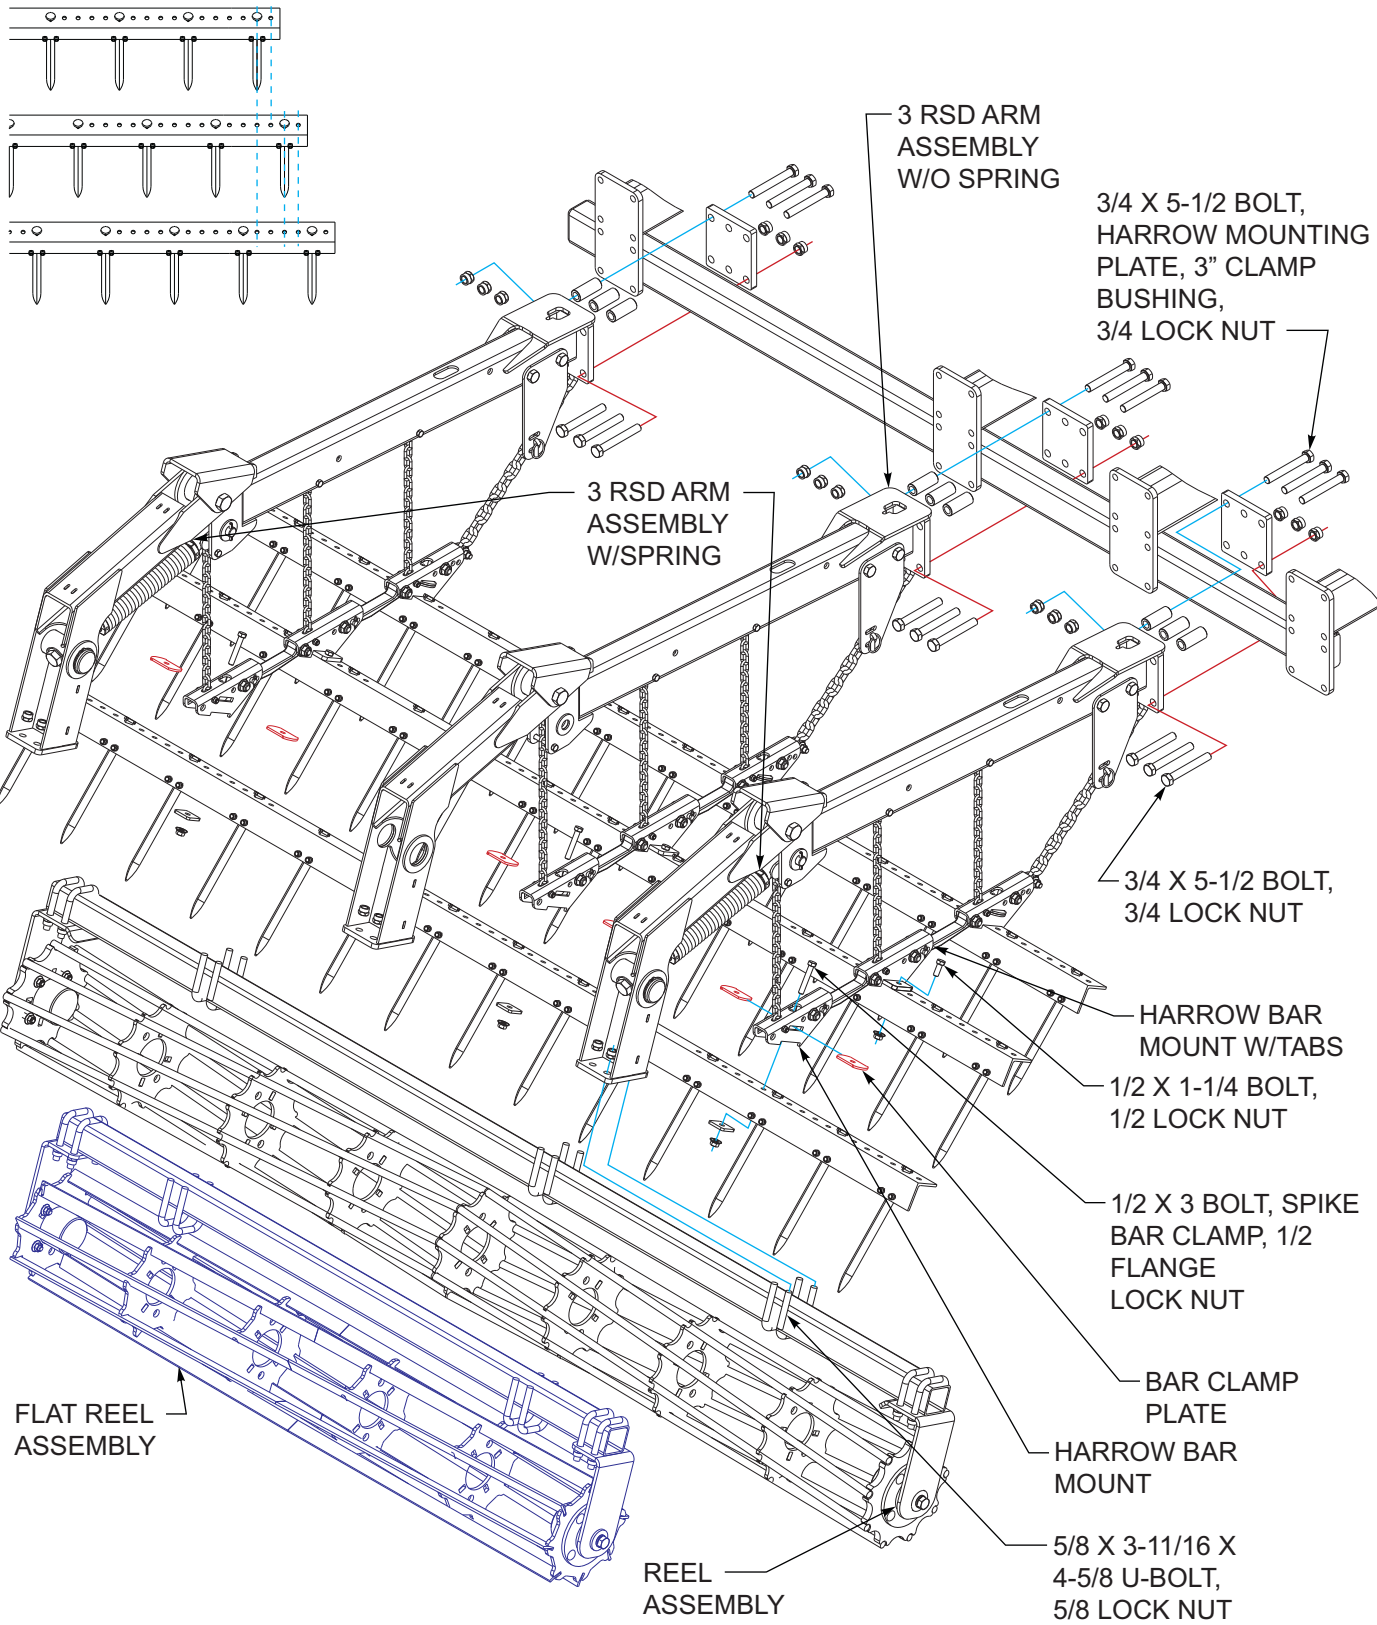

Figure 3-36: 3 Row Spike Harrow and Reel Installation
1. Attach the 3 RSD w/spring and 3 RSD w/o spring arm assemblies to the rear tube of the center and wing frames using harrow mounting plates, 3/4 x 5-1/2 bolts, clamp bushings and 3/4 lock hex nut See Figure 3-36.
3. Refer to Note: spike bar alignment See Figures 3-36 for proper alignment of spike bar assemblies. Be sure they are aligned properly on both right and left side of each section.